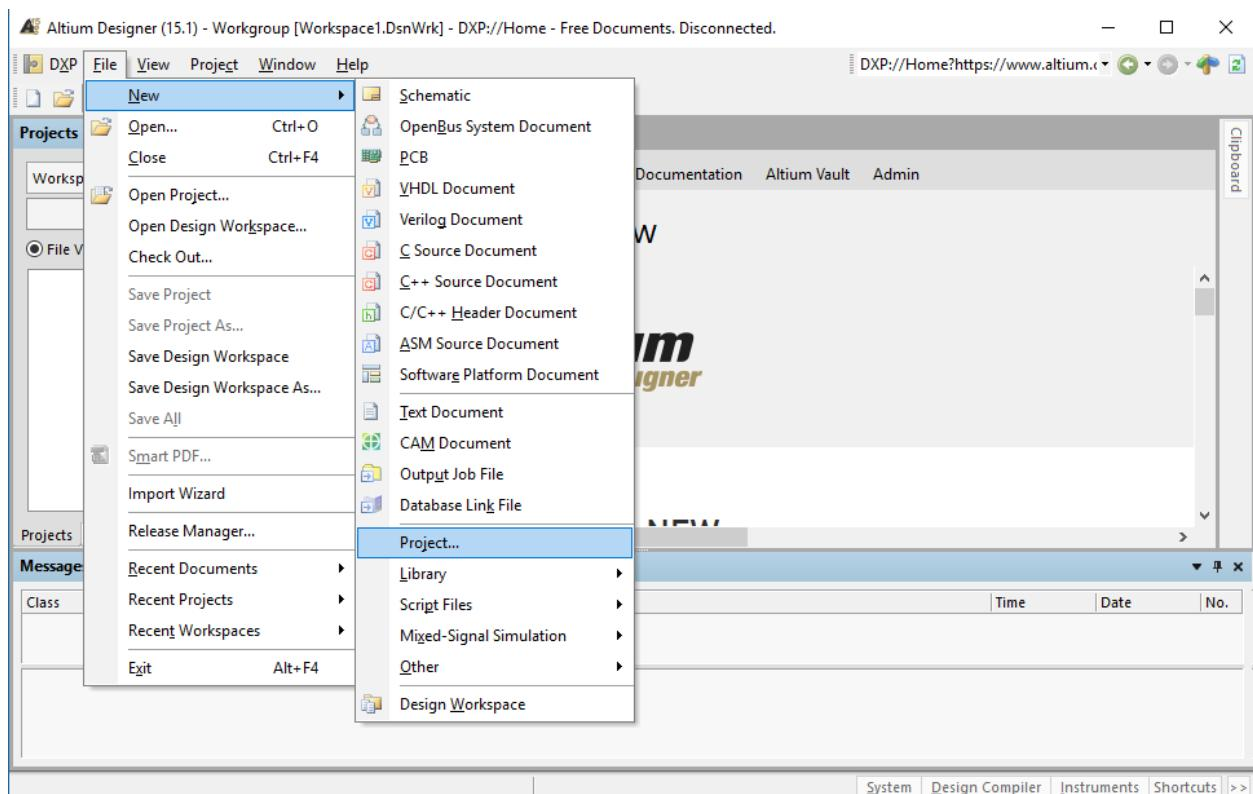

Figure 11: Altium new Project.
3. To start a new project select in menu bar "File" → "New" → "Project" as shown in Figure 11.